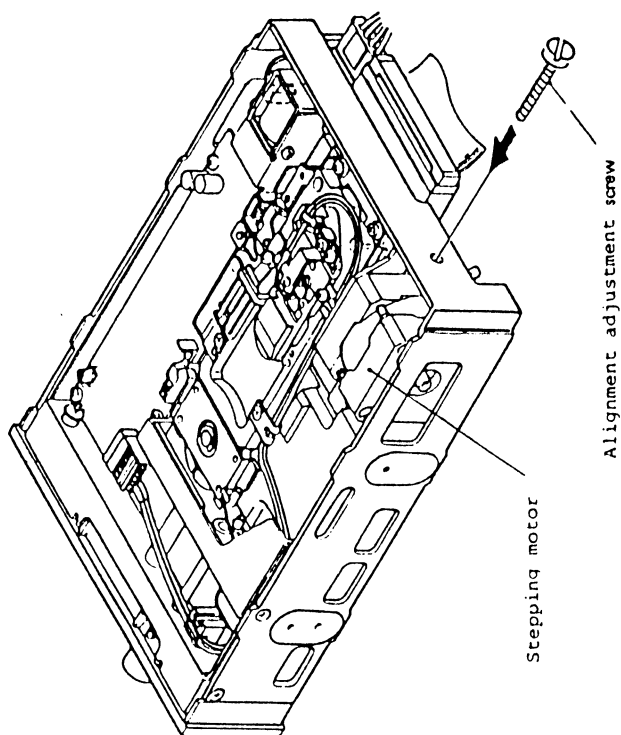

Figure 5.8 Track alignment adjustment
- Insert a screw (M3, 15 mm long) into the threaded portion of the stepping motor carriage as shown in Figure 5.8.
- Loosen the stepping motor carriage retaining screws (2).